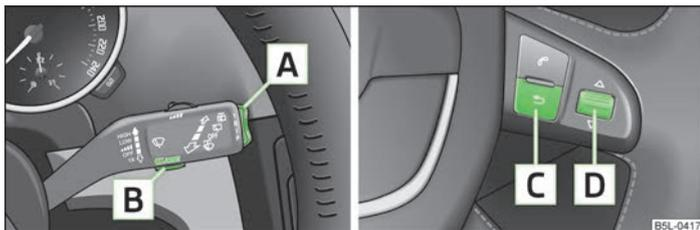

Fig. 6 Multifunction display: Control elements on the windscreen wiper lever/control elements on the multifunction steering wheel
Switching over the memory with the help of the button **B** » Fig. 6 on page 13 on the windscreen wiper lever or with the help of the adjustment wheel **D** » Fig. 6 on page 13 on the multifunction steering wheel.
The rocker switch **A** » Fig. 6 and the button **B** are located on the windscreen wiper lever. Switching over and resetting is performed with the adjustment wheel **D** on the multifunction steering wheel.
- » Press the button **B** » Fig. 6 or **D**.
- » Briefly press the rocker switch **A** » Fig. 6 up or down. This opens the individual functions of the multifunction display one after the other.
- » Press the button **C** » Fig. 6 to open the menu of the multifunction display.
- » Press and hold the button **B** » Fig. 6 or **D** for a short while.
If the outside temperature drops below +4 °C, a snow flake symbol (warning signal for ice on the road) appears before the temperature indicator and an audible signal will sound. After pressing the rocker switch **A** » Fig. 6 on page 13 or the button **C**, the function shown last is indicated.
The driving time which has elapsed since the memory was last erased, appears in the display. If you wish to measure the driving time from a particular time, you need to set the memory to zero at this point in time by pressing the button **B** » Fig. 6 on page 13 or the adjustment wheel **D** for more than 1 second.
To determine the average fuel consumption over a certain period of time, set the memory at the start of the new measurement to zero using button **[B]** » Fig. 6 on page 13 or with the adjustment wheel **[D]**. Dashes appears in the display for the first 100 m you drive after erasing the memory.
The distance driven since the memory was last erased appears in the display » page 12. If you wish to measure the distance travelled from a particular point in time, you need to set the memory to zero at this point in time by pressing the button **[B]** » Fig. 6 on page 13 or the adjustment wheel **[D]**.
The average speed since the memory was last erased is shown in the display in km/hour » page 12. If you wish to determine the average speed over a certain period of time, you need to set the memory to zero at the start of the measurement using the button **[B]** » Fig. 6 on page 13 or the adjustment wheel **[D]**.
- ▶ With the button **[A]** » Fig. 6 on page 13 or the adjustment wheel **[D]**, select the menu item **Warning against excessive speeds**.
- ▶ Press the button **[B]** » Fig. 6 on page 13 or the adjustment wheel **[D]** to activate the ability to set the speed limit (value flashes).
- With the button **A** » Fig. 6 on page 13 or the adjustment wheel **D**, select the menu item **Warning against excessive speeds**.